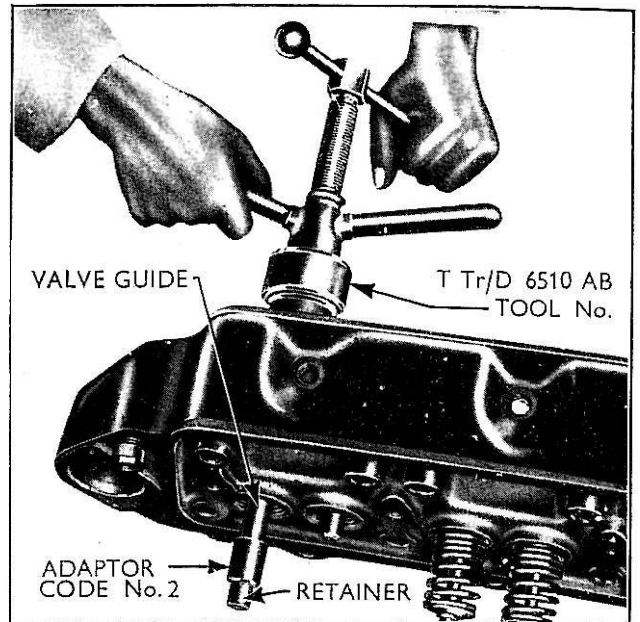

Fig. 50
- Locate the guide, then the adaptor. The use of the correct adaptor, code No. 2 (see Fig. 50) will ensure that the guide is correctly positioned, i.e., with a protrusion of 1.045 ins. to 1.105 ins. above the spring seat.